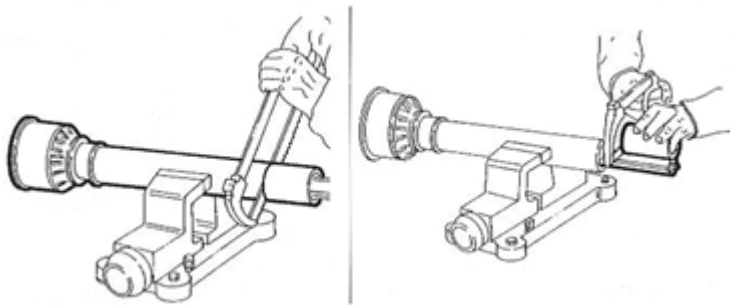

Fig. 6
1. Cut the plastic tube of one of the semi cardan with a hacksaw on the cutting line (see Fig. 6 above).